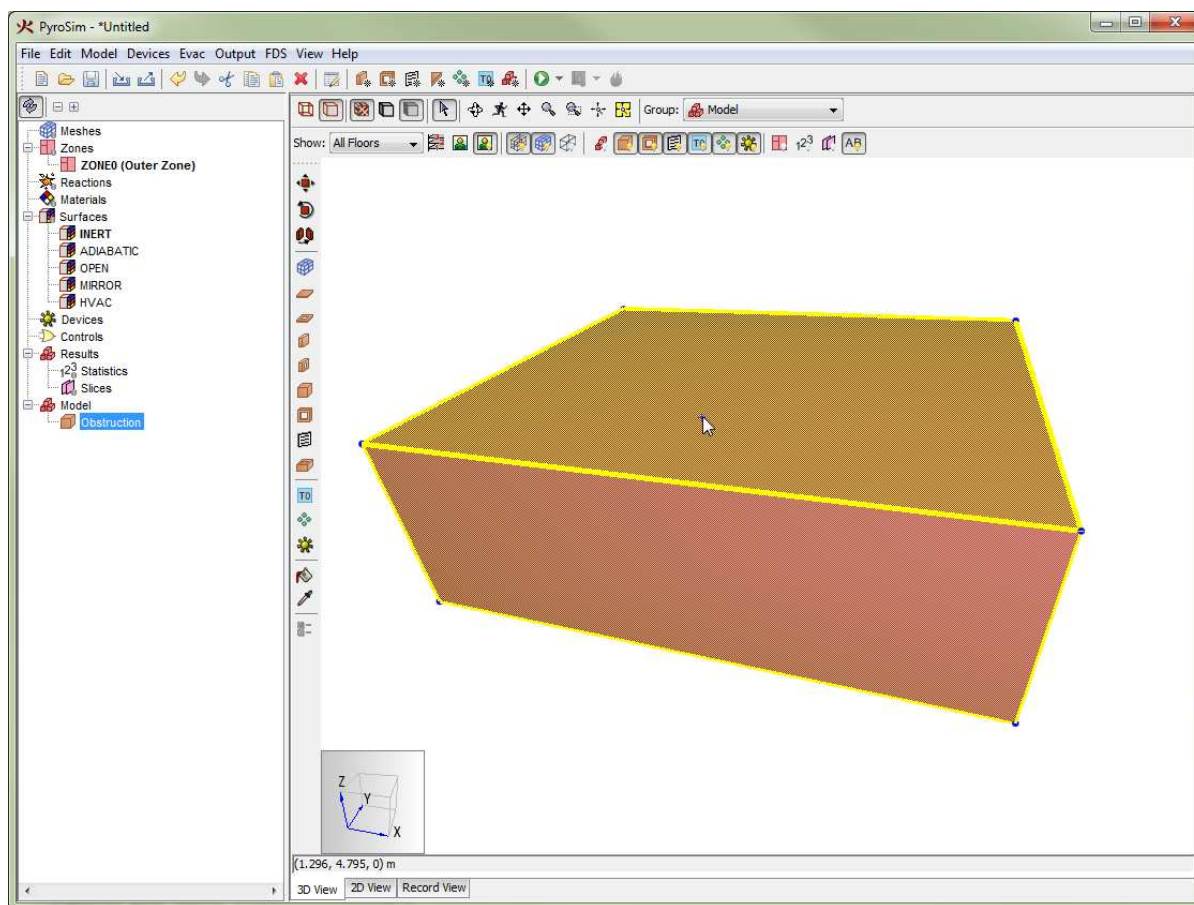

Figure 91. A highlighted face handle
3. Hover the cursor over the desired handle. If the handle is a dot, it will turn yellow. If the handle is a face, the entire face will turn yellow as shown in Figure 91.